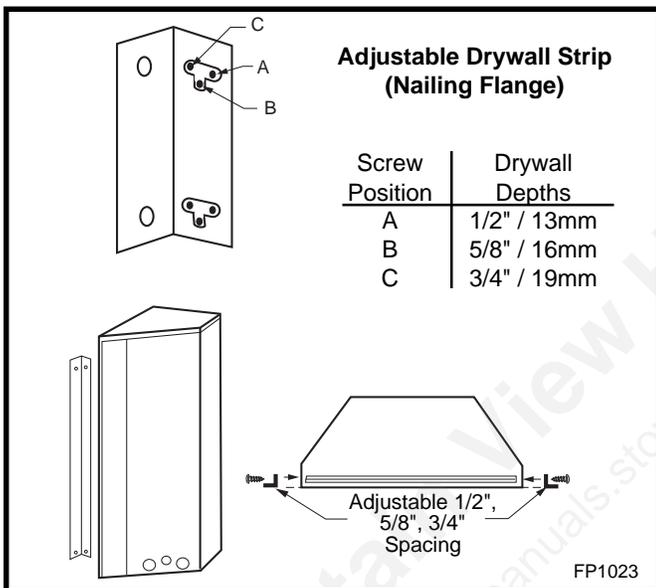

Fig. 3 Adjustable drywall strip (nailing flanges)
4. Attach fireplace to frame using adjustable frame drywall strips (Fig. 3). Preset depth to suit facing material—adjustable to 1/2", 5/8" or 3/4" depths (Fig. 3).
5. Screw through slotted holes in drywall strip, then screw into pre-drilled holes on fireplace side. Measure from face of fireplace to face of drywall strip to confirm the final depth (Fig. 3).